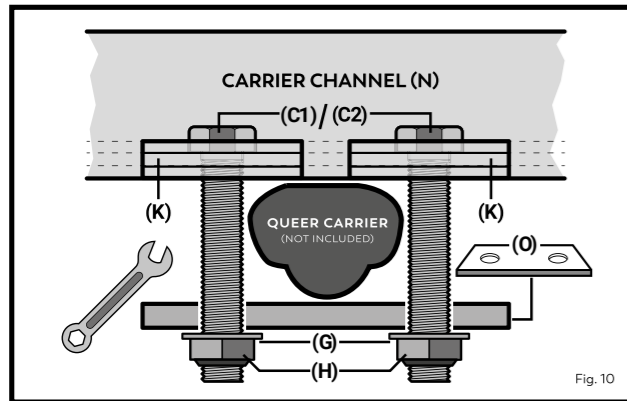

Fig. 10
4.7 Take the **mounting plates O** and fasten them to the screws using the **nuts H** (8x) and **washers G** (8x) (see Fig. 10).